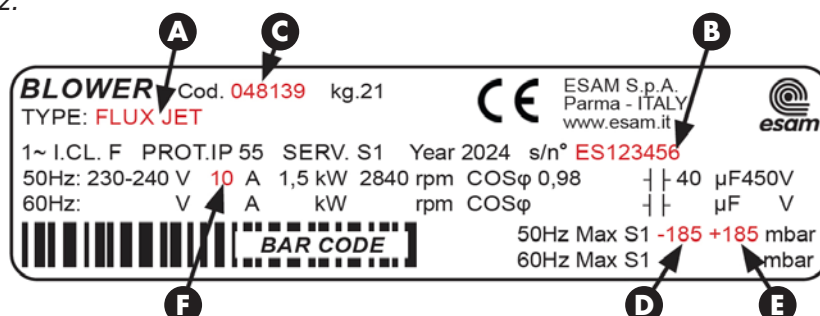

Figure 2.
Refer Figure 2.
- 5 The blower **MUST** be protected from over-current with a thermal overload device/magnetic phase protection, set no higher than the blower's maximum current rating stated on motor name plate (refer to example **F** on Figure 2).